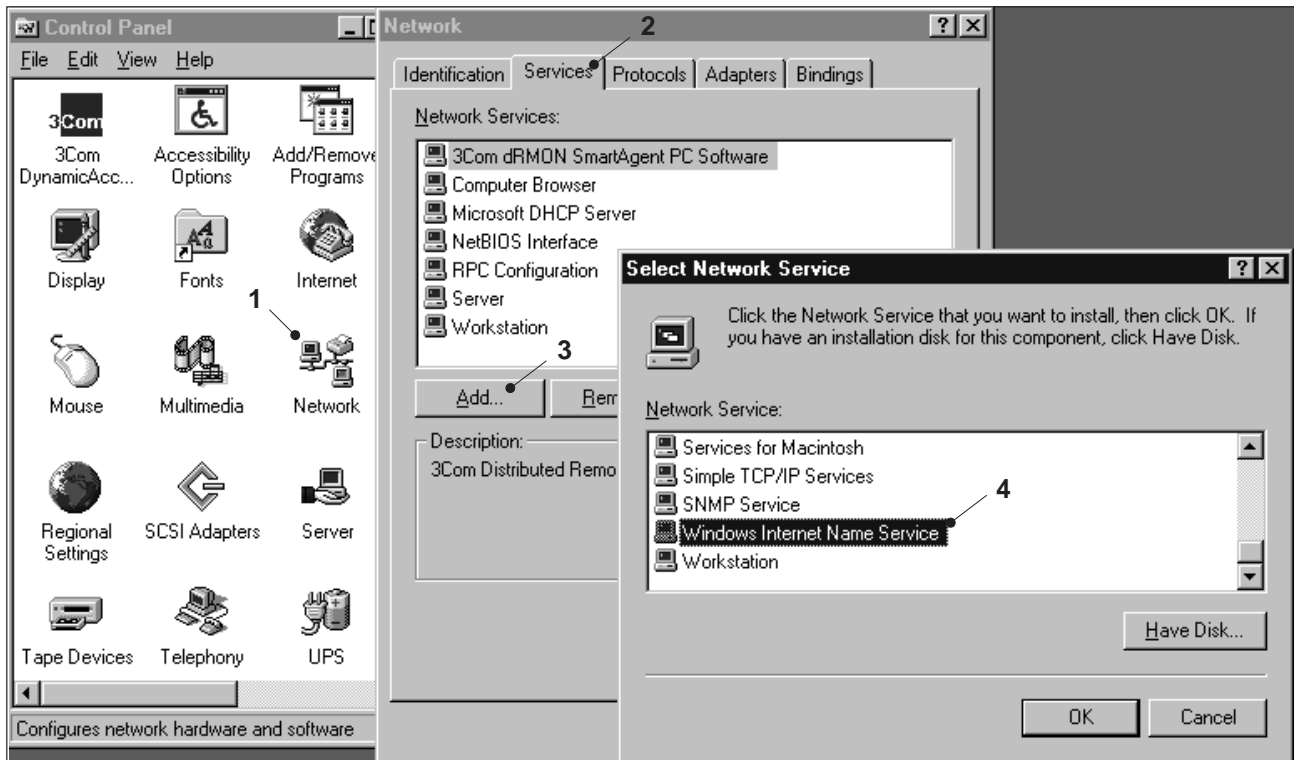

Fig. 15 Network Service
- ❸ Open the "Control Panel" dialog box by clicking the buttons **Start>Settings>Control Panel**.
- ❹ Click on the **Network** symbol (Fig. 15/1).
- ❺ Click **Services** (Fig. 15/2) on the property tab.
- ❻ Click on the **Add** button (Fig. 15/3).
- ❼ Click on the line **Windows Internet Name Service** (Fig. 15/4).
- ❽ Click on the **OK** button.
- ❾ Click on the **Continue** button.
- ❿ Click on the **Close** button.